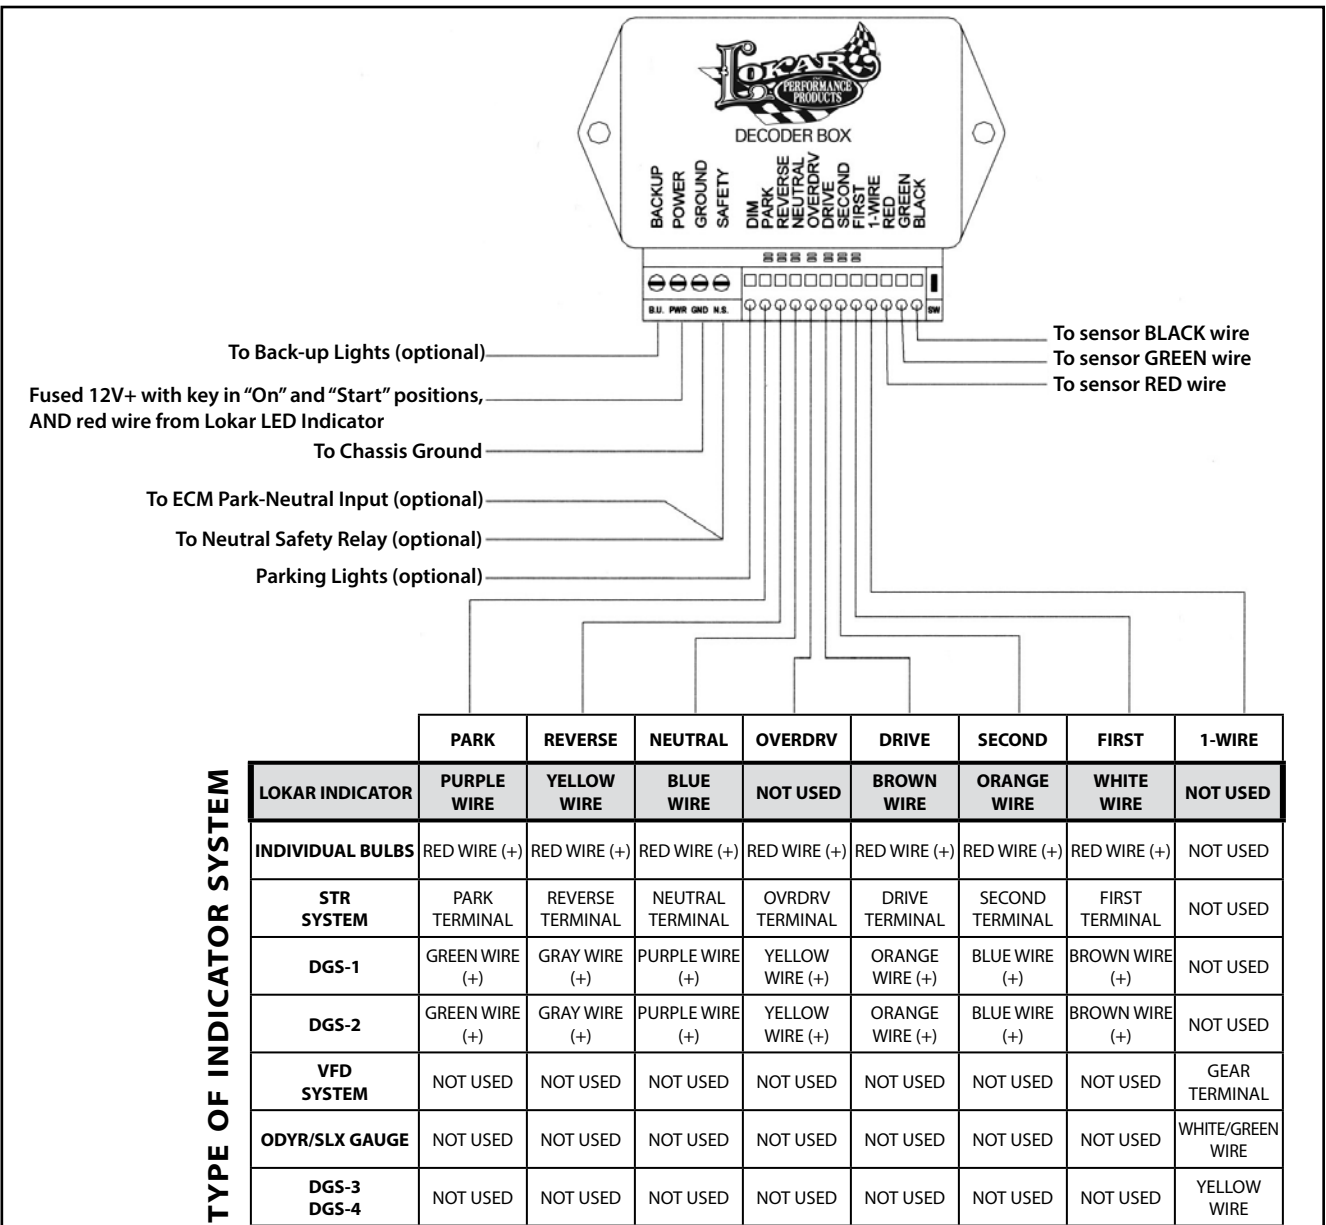

Fig. 13
Connect a solid chassis ground to the "GROUND" terminal on the decoder box. **Fig. 13**
- Step 25:** Following the wiring diagram in **Fig. 13**, connect the rest of the wires from the LED indicator to the decoder box.